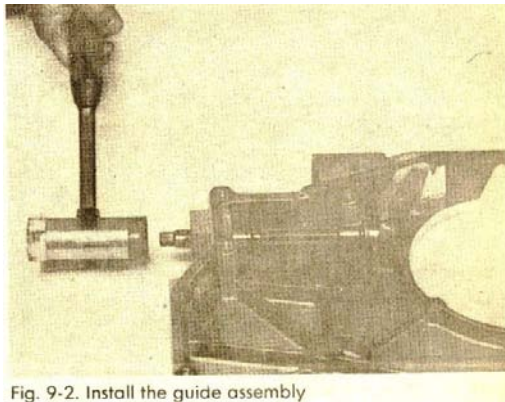

Fig. 9-2. Install the guide assembly
- ❖ With the gear cover remove, compress the guide assembly bushing (6) for installation into the front cover.
- ❖ Put the slotted end of the barring device shaft (1) over the roll pin (7) in the guide assembly and tap into position, Fig 9-2.